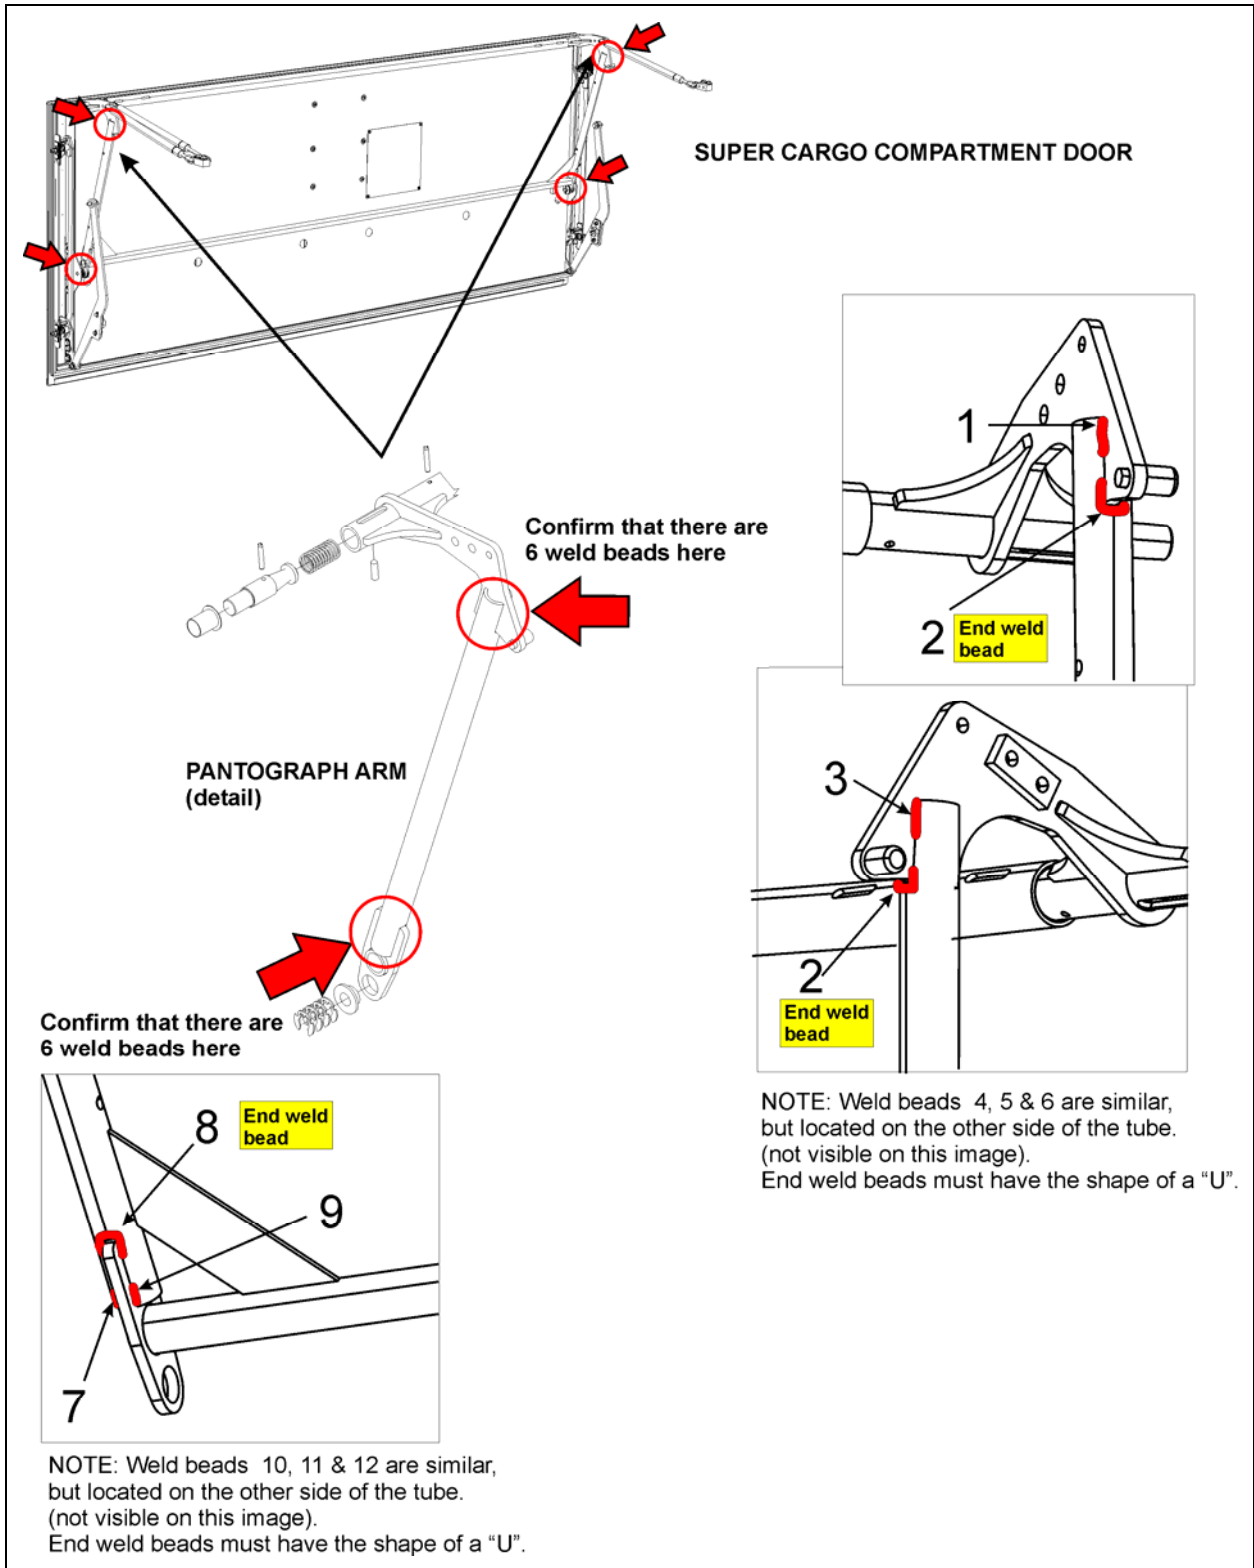

FIGURE 1: INSPECTION
- 1 Inspect as per figure 1. Make sure that the 24 weld beads are present on the pantograph arm (24 weld beads per door, 2 doors to be inspected). Furthermore, end weld beads (a total of 4) must have the shape of a « U ».